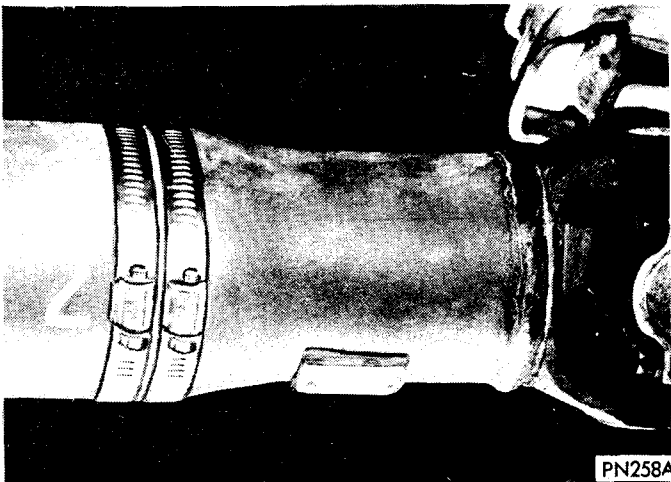

Fig. 15—Two Clamps Installed at Best Position
(10) If vibration lessened but was not completely gone, position two clamps at that point and run test again (Fig. 15).
(11) Two clamps combined weight at one point may cause an unbalance condition; if so, rotate clamps about one half inch (one quarter inch each